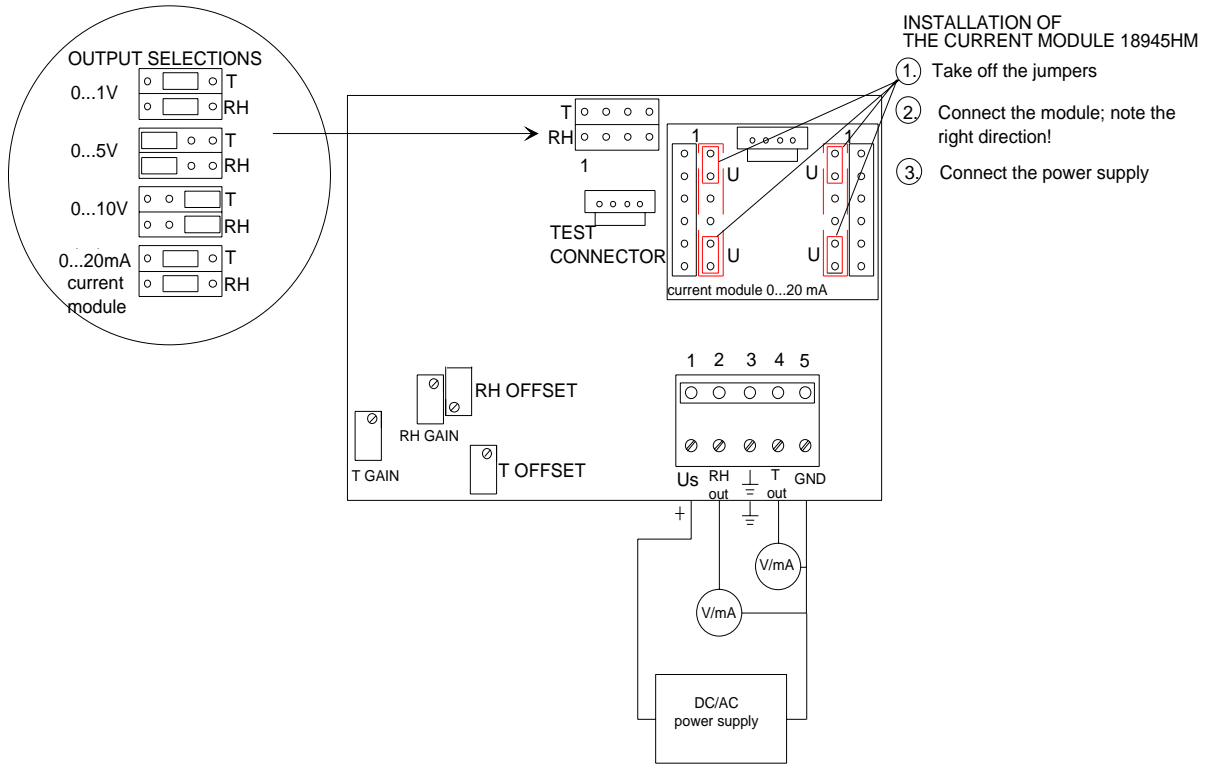

Figure 3.4 Electrical connections and installation of the current module
Figure 3.4 shows the electrical connections and the installation of the current module.
- Use the RH offset potentiometer (Figure 3.4.) to adjust the output signal to the value given in the calibration table (Chapter 4.3).
- Check that the reading corresponds within the desired accuracy to the reading given in the calibration table. If not, adjust the reading with the RH gain potentiometer (Figure 3.4).